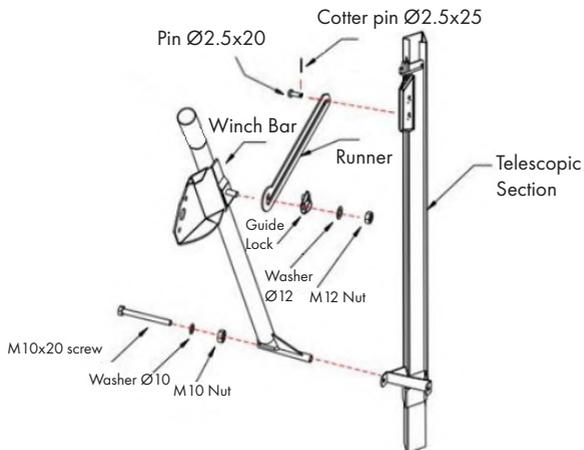

Figure 19
- Attach the Winch bar and Runner to each other as shown in Fig. 19.